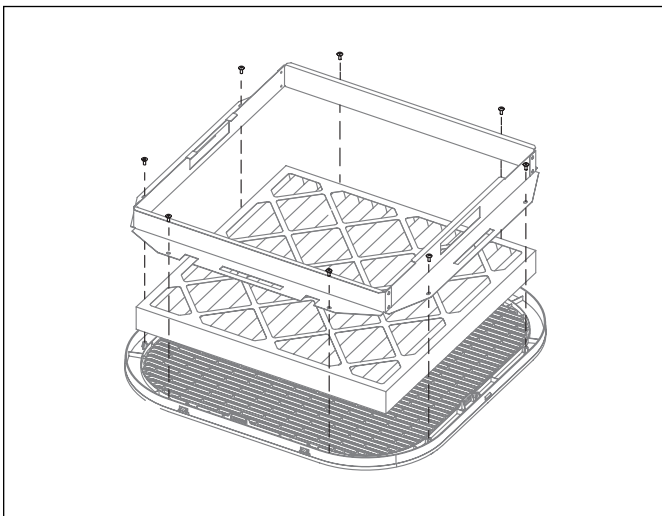

Figure 92
2. Insert the filter. The filter bracket must also be secured to the air inlet grill using 8 #8-3/8" (M4x10) screws (See Figure 92).